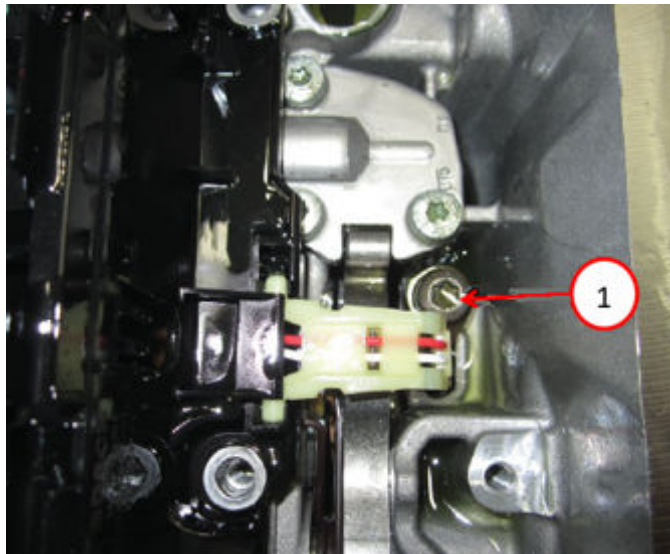

Fig. 10
16. Using Guide Sleeve 10377, carefully pull the electrical harness insulator straight out from the transmission case Fig. 10.